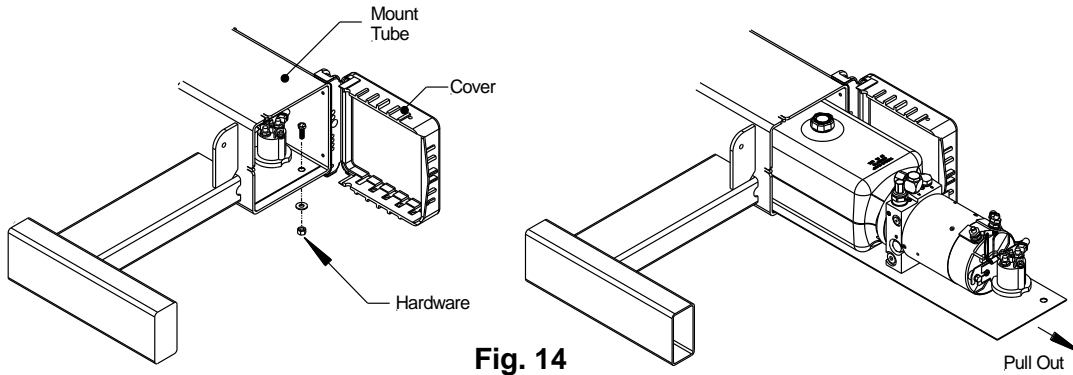

Fig. 14
- Pull out the power pack tray approximately 20" out of the mount tube by removing the bolt on the curbside and detach the ground strap and control power connector from the tray, **Fig. 14**. Disconnect hoses, if necessary, to pull out tray far out. Verify hoses and cables are not in contact with the inside walls of the tube prior to welding.